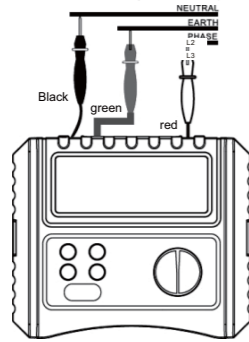

Figure 6
XI. Detecting Phase Sequence(See Figure 6)
- Then connect three test leads into three-phase AC system (black to L1, green to L2, red to L3, refer to Figure 6 for details), after that, the Tester will indicate the phase sequence and open phase result on LCD.
- Insert three connectors of one-plug test leads or three separate test leads into three input terminals of the Tester (red to red, green to green, black to black). (Refer to Figure 6, 7, 8)